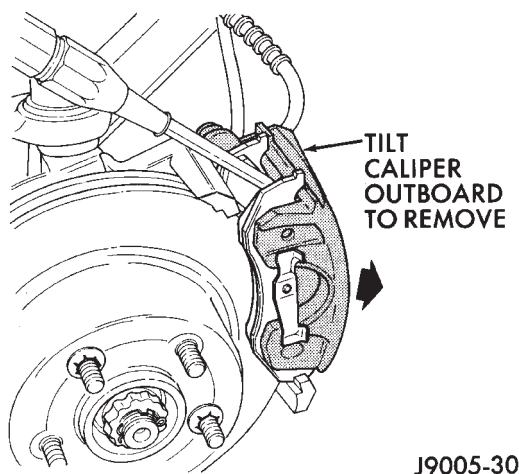

Fig. 27 Caliper Removal
(7) Tilt top of caliper outward with pry tool if necessary (Fig. 27) and remove caliper.
(8) Remove caliper from vehicle.